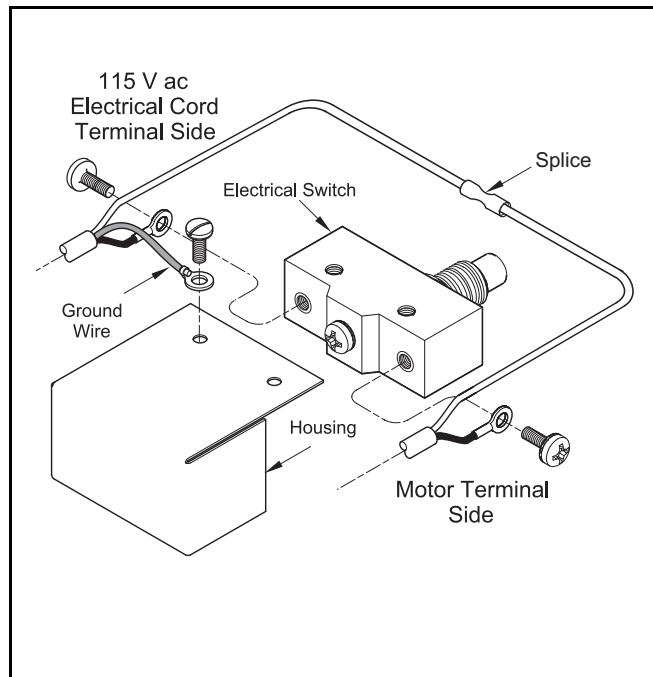

Figure 7 Electrical Switch Wire Connections
10. Join the two white wires using a butt splice connector. See **Figure 7**.